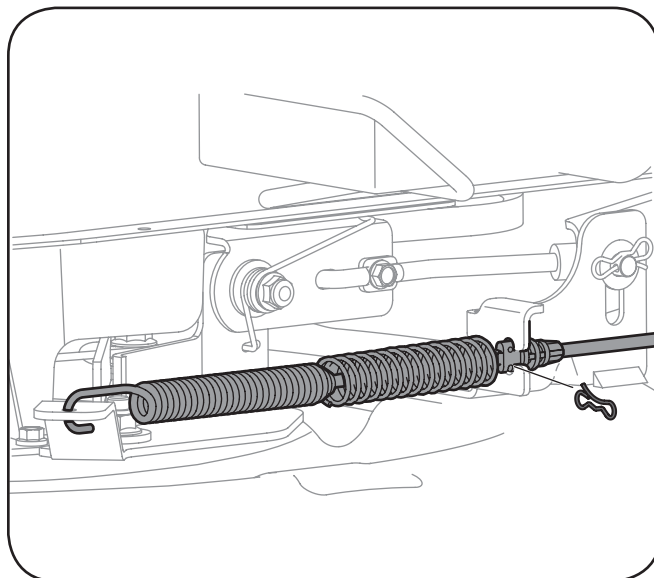

Figure 7-4
8. Carefully remove the PTO cable from the rear of the cutting deck by removing the bow-tie cotter pin which secures it. Remove the spring from the deck idler bracket. See Figure 7-4.